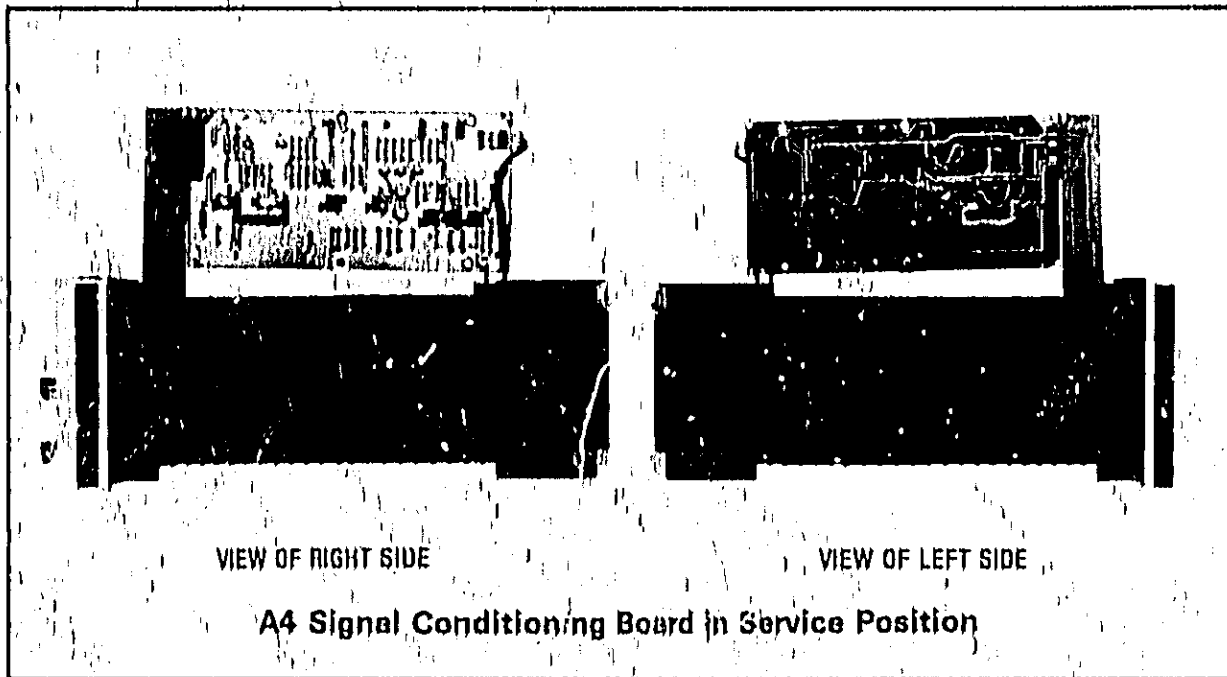

Figure 8-19. Service Position Installation Diagrams
2. Using one of the screws removed in step 1, attach the extender bracket, HP P/N 08349-00011, to the standoff as shown in Figure 8-19.
4. Using one of the screws and two of the fiber washers removed in step 1, attach the A4 board to the extender bracket as shown in Figure 8-19. One fiber washer should be placed between the head of the screw and the A4 board and the other one should be between the extender bracket and the A4 board to ensure that the bracket or screw is not shorted to the board.